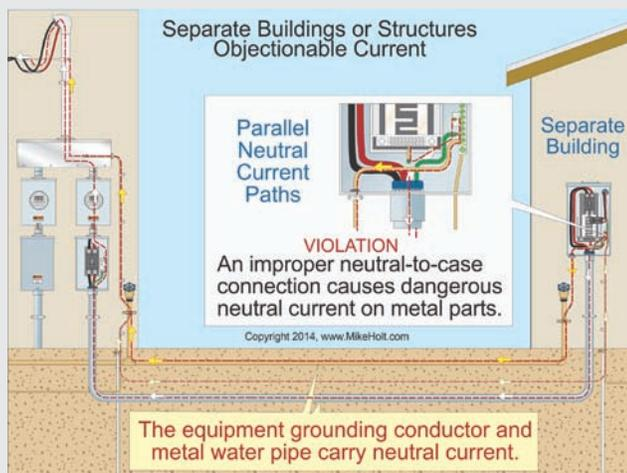

Figure 250–27
**Wiring Errors.** Objectionable neutral current will flow on metal parts and equipment grounding conductors when the neutral conductor from one system is used as the neutral conductor for a different system. Figure 250–28